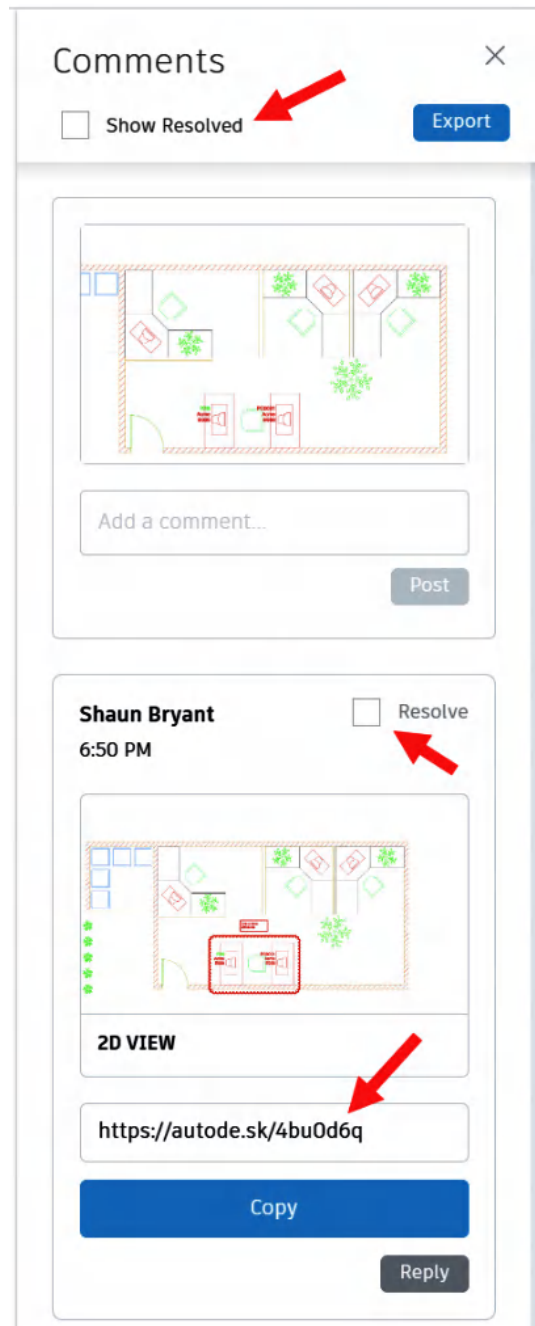

Figure 13.27: The Comments panel with markups shown
6. You will now see that the markups have been added to the **Comments** panel, which automatically appears on the right-hand side of the viewer screen, as shown in *Figure 13.27*. Note that there is a preview thumbnail of the markups and a URL to share the markups/comments. There is also a **Resolve** checkbox to check when the markups have been resolved. You can also use the filter called **Show Resolved** to view resolved comments at the top of the **Comments** panel.